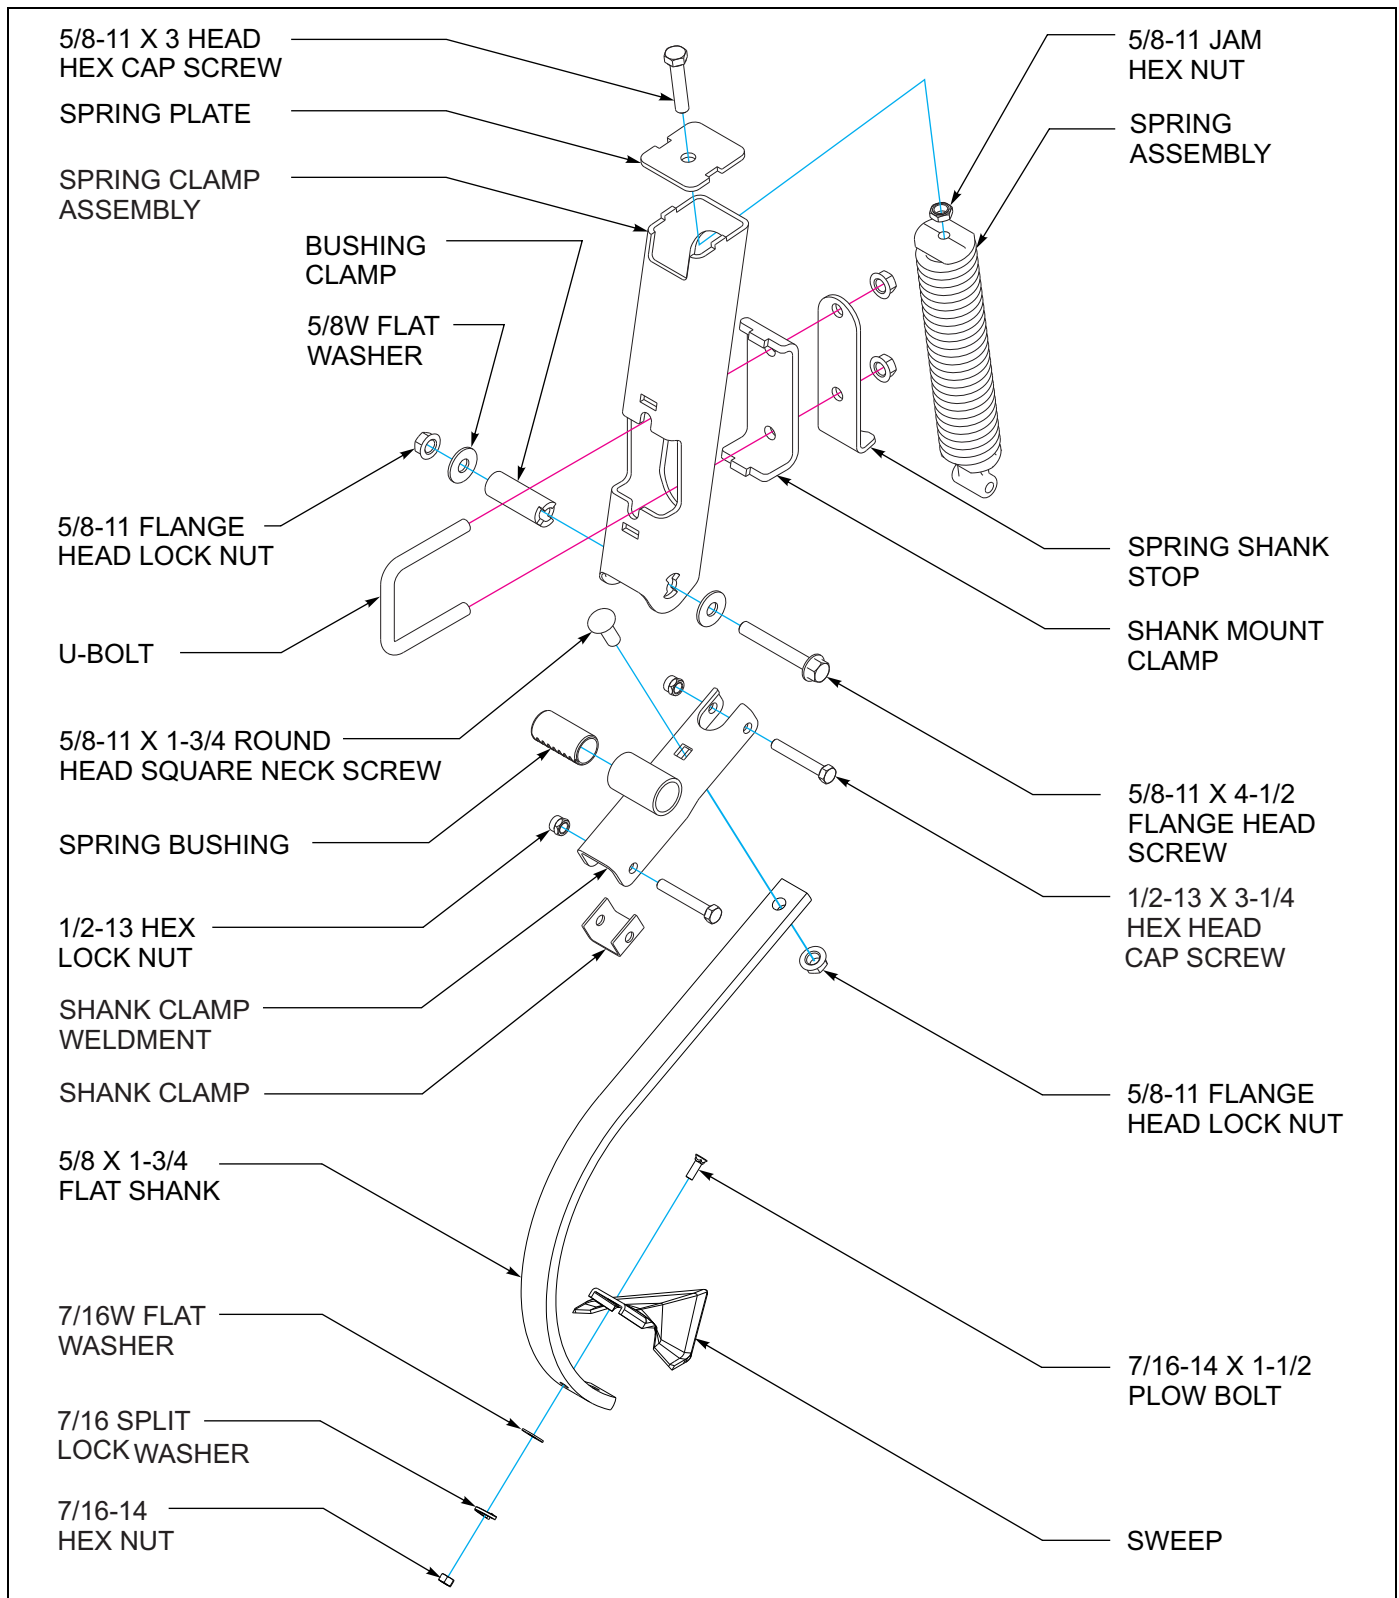

Figure 3-35: Spring Shank Installation
2. Assemble sweeps\points to the lower end of the shank assemblies. Use 7/16 plow bolts, lock washers and nuts. Install a flat washer over the lower slotted hole of the shank (**See Figure 3-35 and 3-36.**)